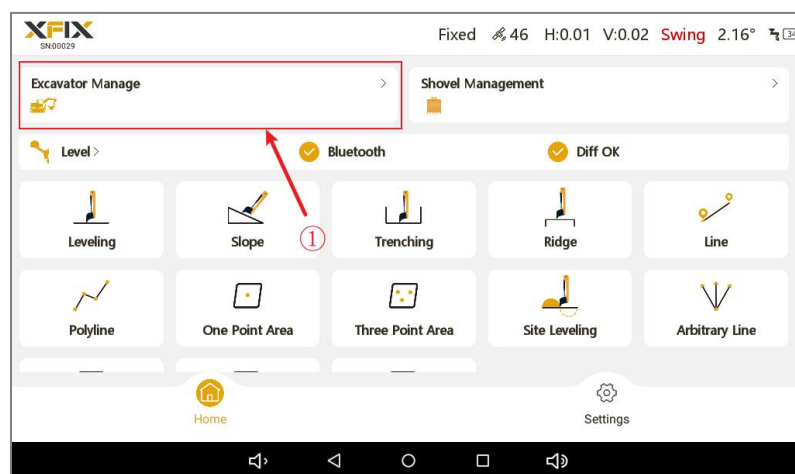

Figure 3-21
- (6) Open the XFIX software calibration parameter interface.
- ① Open the XFIX app and tap 'Excavator Management' as indicated by the arrow, as shown in Figure 3-21.